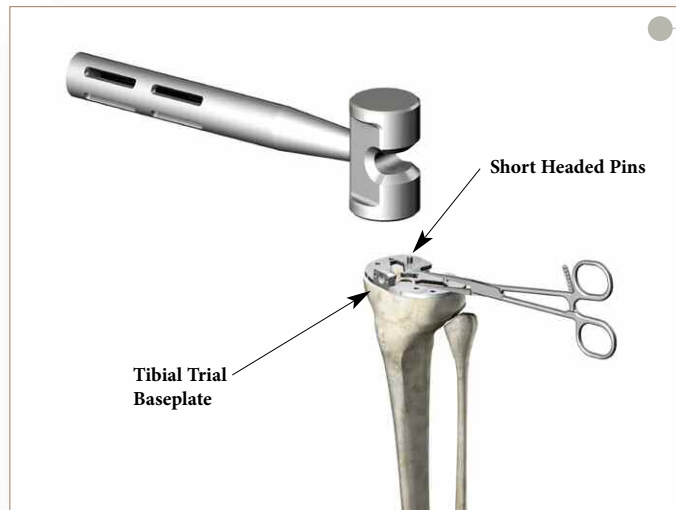

Figure 75
- Pin the baseplate to the tibial plateau by placing two short, headed fixation pins through a medial and lateral hole in the baseplate (**Figure 75**).